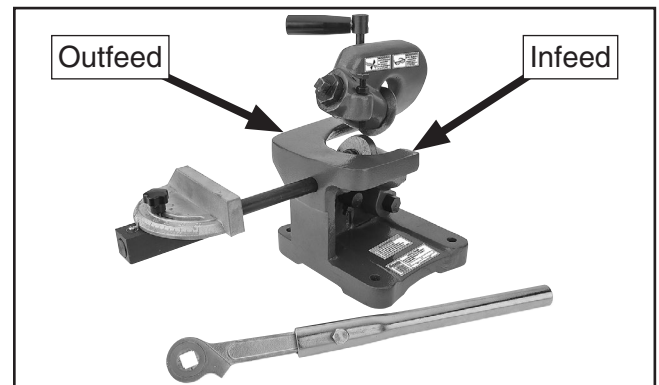

Figure 1. Model T26868.
2. Place workpiece on infeed side of shear body (see **Figure 1**) and align cut line with blades.